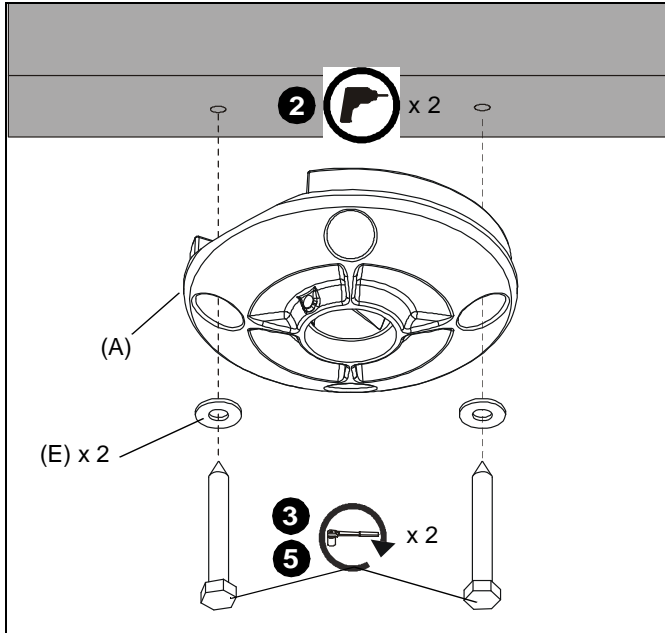
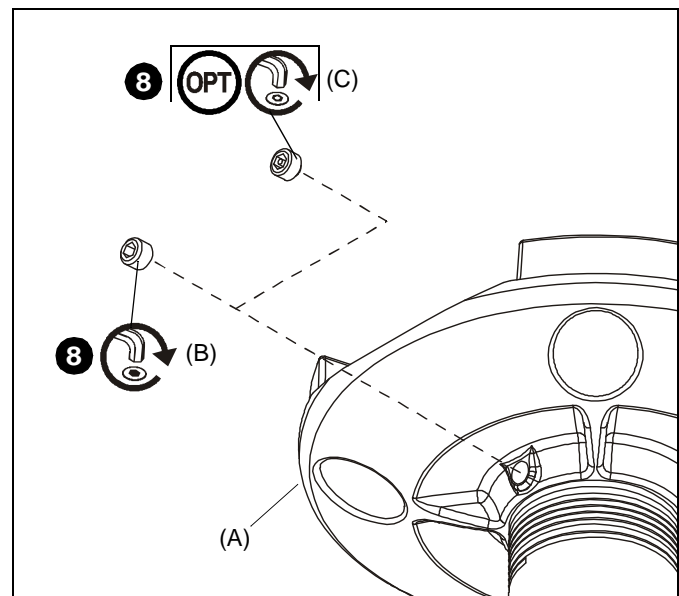

Figure 2
Figure 4
- Drill 1/4" diameter pilot holes into wood joist (See Figure 2). Ensure pilot holes are straight.
- Using 9/16" socket wrench, loosely install two (minimum) Grade 2 (not included) 3/8" x 2-1/2" lag screws through 3/8" washers (E), ceiling plate (A), into wood joist (See Figure 2). Do not tighten plate (A) against ceiling at this time to accommodate cable installation.
- Tighten lag screws (See Figure 2).
- Using pipe wrench, install 1-1/2" NPT or NPSM following ANSI/ASME B1.20.1 (Schedule 40, 0.154" minimum thickness aluminum - ASTM B221) threaded extension column (not included) into threaded collar of ceiling plate (A) until tight, with a minimum of four threads engaged.
- Using hex key (D), secure extension column by *one* of the following methods (See Figure 4):
- Install one 5/16" x 1/4" set screw (B) into threaded hole, tightening firmly against column.
- OPTIONAL:** Install one 5/16" x 1/4" security set screw (C) into threaded hole, tightening firmly against column.